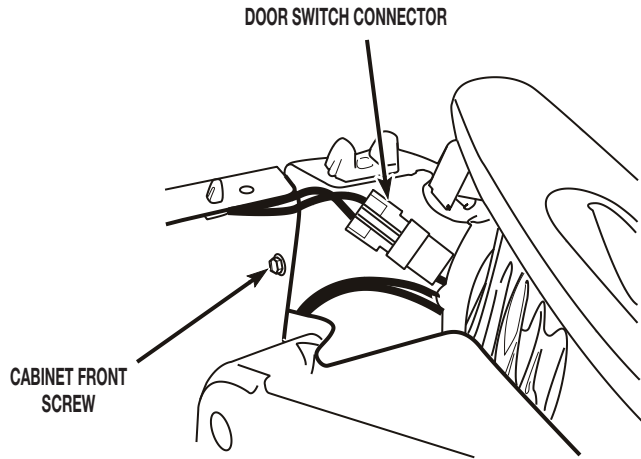

FIGURE 2
2. Remove two (2) hex head screws from the cabinet front panel. See *Figure 2*.
3. Disconnect the door switch connector from the harness connector. See *Figure 2*.